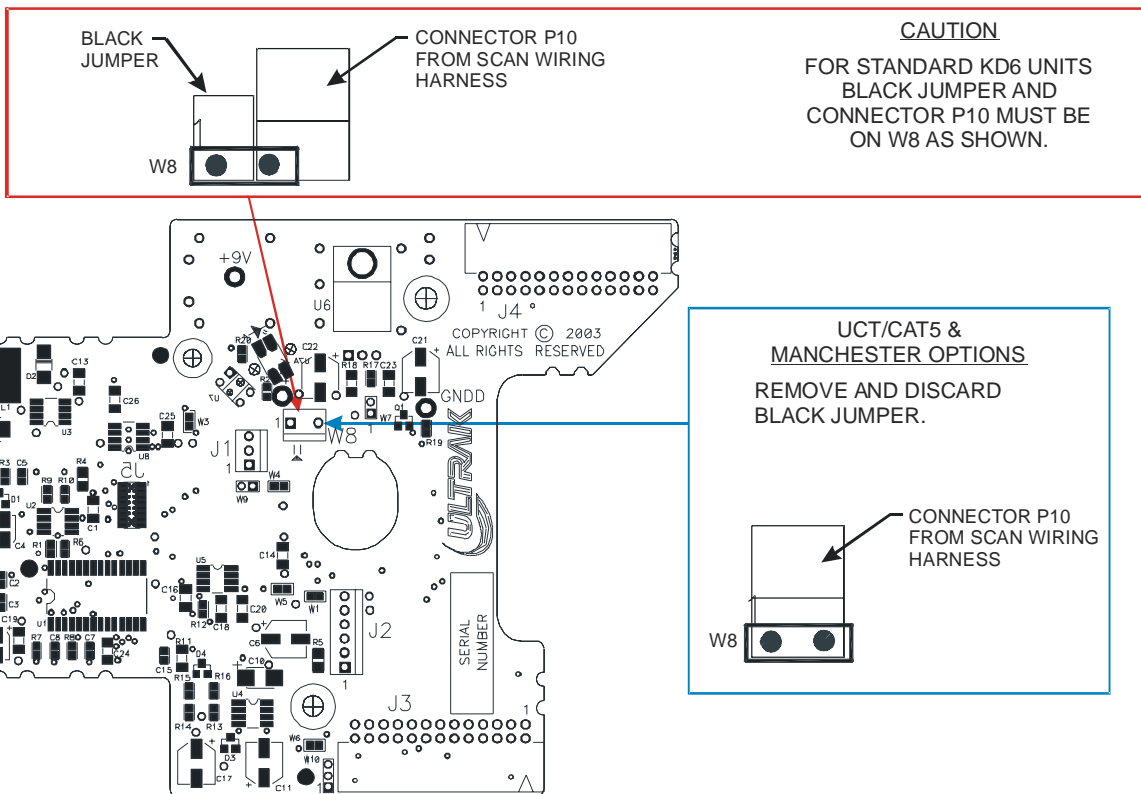

Figure 2: Video Board, Part Number 519539-1020 (NTSC)
1. Set jumper W8 on the video board as shown in Figure 2.
Jumper W8 on the video board, part number 519539-1020 (NTSC) or 519539-2020 (PAL), must be set as shown in Figure 2. For the **CAT-5/UTC option**, the back can or top dome must have the CAT5/UTC interface board, part number 518753-1030.